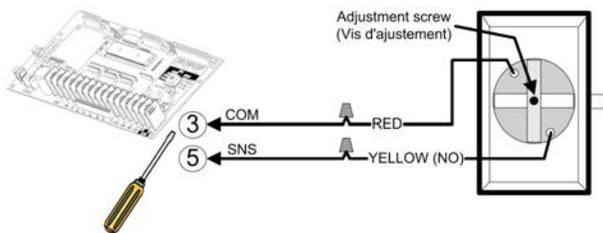
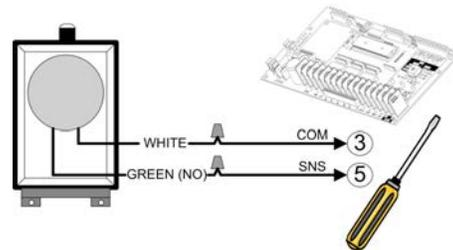

Figure 15 - AIRSWITCH 001 / 007
Figure 16 - AIRSWITCH 009
3. Use a coil cord or take-up reel to connect the air switch to the operator terminals. Install electric wires according to Figure 15 or Figure 16.